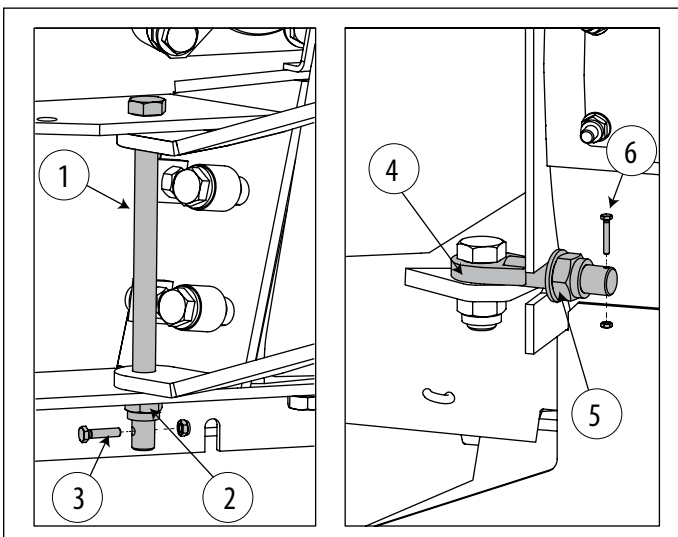

Fig. 3. Mounting the feeder
1. Mount the feed unit on the left-hand side of the chipper using a M16x240 locking screw (1) and a M16 locking nut (2). Insert the M6x25 screw (3) into the hole of the locking screw and tighten it. Swing in the feed unit. Insert the locking screw (4) of the feed unit into the groove on the chipper and lock the feed unit by the M20 locking nut (5). Insert the M4x25 screw (6) into the hole of the locking screw and tighten it. See fig 3.